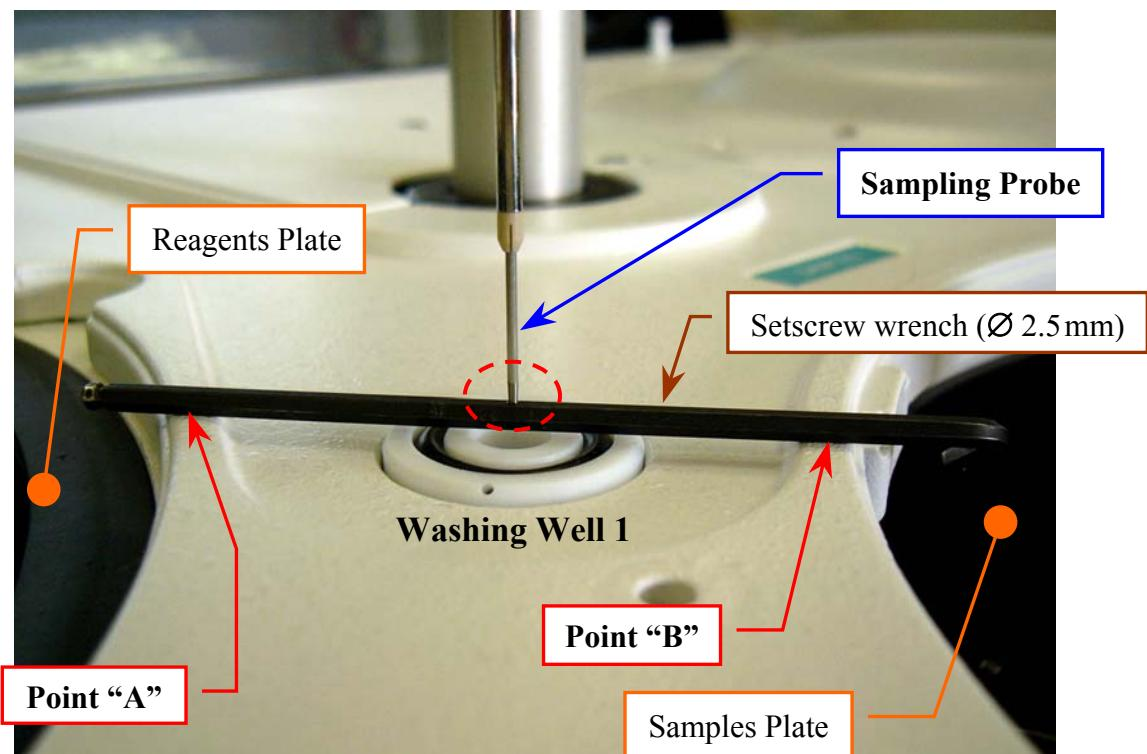

Fig. 4 – Vertical adjustment of the Sampling Probe
4. Make sure that the Sampling Probe is vertically aligned (like show in the **Fig. 4**) and centered with respect to the Washing Well 1 (well places between Reagents Plate and Samples Plate indicated in the **Fig. 1**). If it not be so, adjust in the following way:
- s. position a setscrew wrench with diameter equal to 2.5 mm between the point "A" (on mezzanine edge of the Reagents Plate) and the point "B" (on mezzanine edge of the Samples Plate) and with its midpoint centered with respect to the center of the Washing Well 1 (**Fig. 4**).
- t. make sure that the tip of the Sampling Probe touch strictly the upper side of the setscrew wrench (like show in the **Fig. 4**). If it not be so, adjust in the following way: